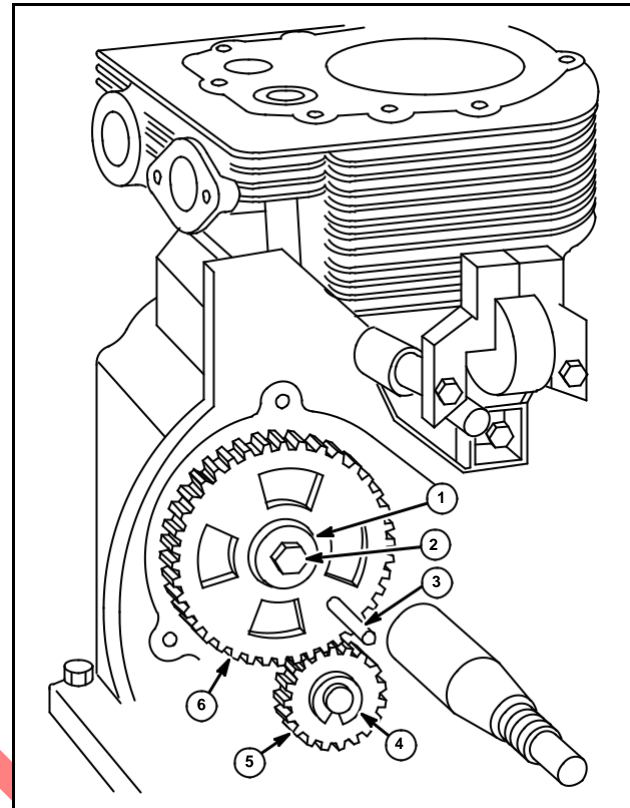
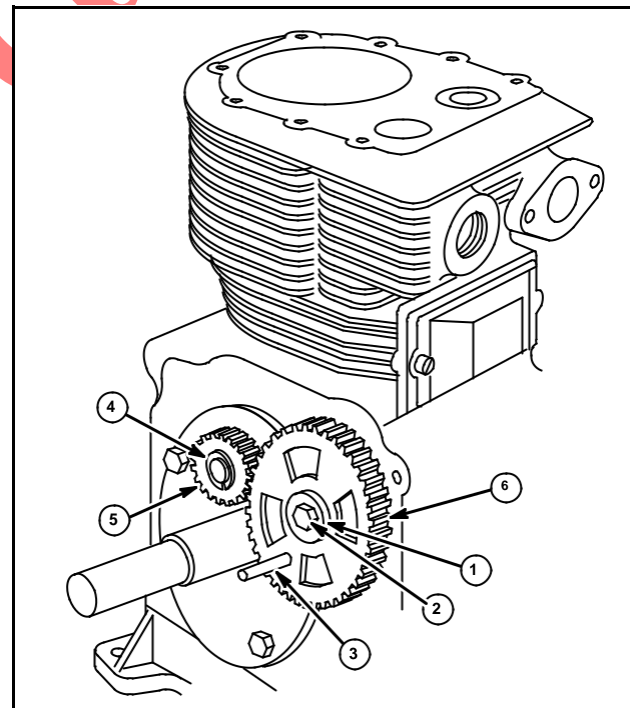

Fig. 3
Fig. 4
3. Remove 5-1/2" (14 mm) cam gear shaft bolt (2).
4. Place magneto end timing gear (6) on cam gear taper.
5. Install bolt (2) with Belleville washer (1), finger tight, Fig. 3.
NOTE: On Model Series 300400 and 320400 only, place PTO-end timing gear on the other end of camshaft. Install short cam gear bolt with Belleville washer, finger tight, Fig. 4.
6. To time drive gears, insert short pieces of 1/4" (6 mm) rod (3) through 1/4" (6 mm) holes in drive gear, and into locating holes in crankshaft bearing support plates, Fig. 3.
NOTE: For Model Series 300400 and 320400 also see Fig. 4.
9. Install idler gear(s) (5).
10. Install snap-in "E" rings (4) to retain gears. No further timing is necessary, Fig. 3 and Fig. 4.